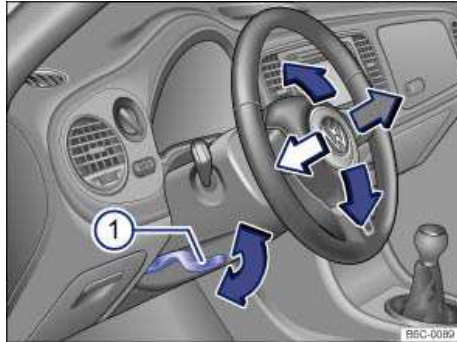

Fig. 40 Manual adjustment for the steering wheel position.
- Push down on the lever ⇒ fig. 40 \(1\).